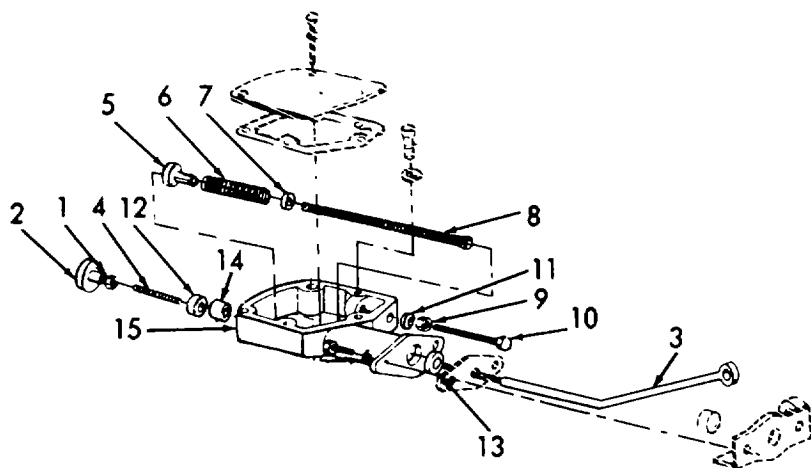

Figure 3-19. Governor Sub-cap, Disassembly/Reassembly.
- b. Disassembly. (Refer to figure 3-19).